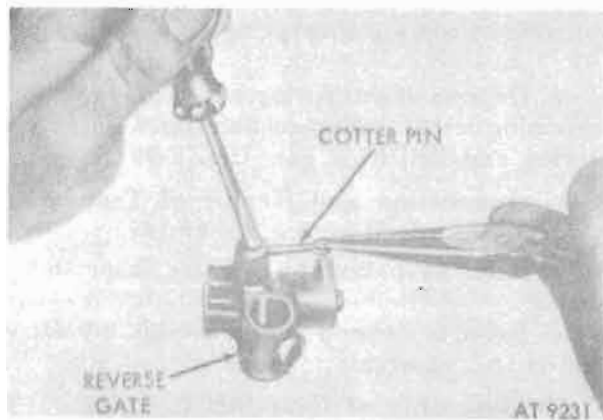

Figure 8-98. Reverse gate detent spring and ball retaining pin.
b. Depress detent spring and remove cotter pin retaining detent spring and ball (fig. 8-98). Remove spring and ball from gate (fig. 8-99).